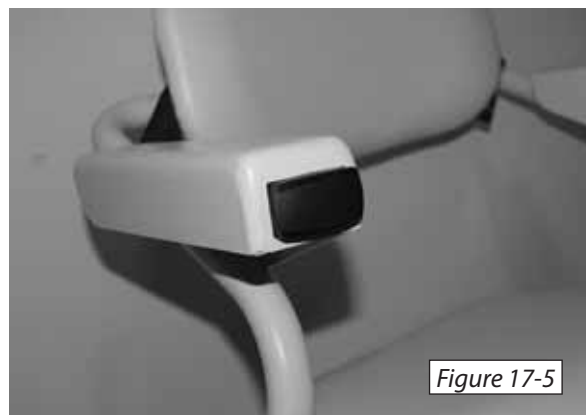

Figure 17-5
8. Use the armrest control switch to run the lift down the rail approximately 30". *[Figure 17-5]*